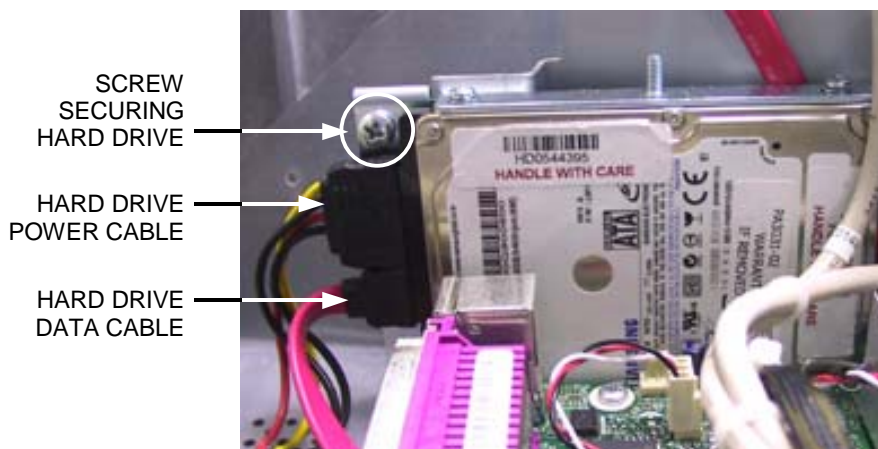

FIGURE 1 - RX HARD DRIVE AND CONNECTIONS
4. Disconnect the hard drive data cable and hard drive power cable from the hard drive (see Figure 1).
5. Remove the screw securing the hard drive mounting bracket to its mounting plate (see Figure 1). Remove the hard drive from its mounting plate by sliding the assembly toward the front of the system.
1. Reattach the hard drive data and power cables to the new hard drive (see Figure 1).
2. Slide the hard drive assembly back onto the mounting plate and screw it into place (see Figure 1).